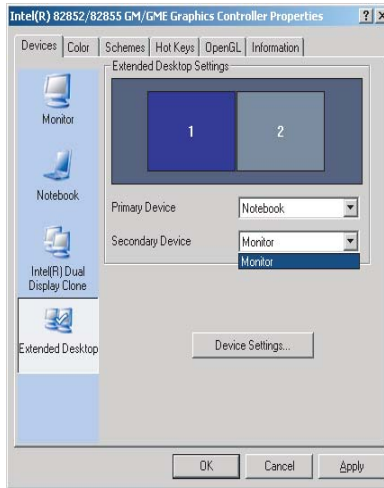

Figure B-2 Intel(R) 82852/82855 GM/GME Graphics Controller Prope...(1)
displayed (See Figure B-2).
- 2) Click in the left of [Devices] tab (See Figure B-2), then select [Extended Desktop].